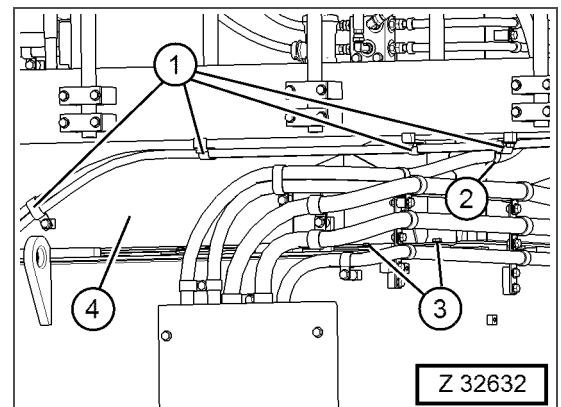

Fig. 3-462 View from below
8. Disassemble the clamps (Fig. 3-462, Pos. 1 & 2) along the fuel tank platform (rear) (Fig. 3-462, Pos. 4) and clear the refrigerant hoses from the fuel tank platform (rear).
9. Disassemble the mounting bolts (Fig. 3-462, Pos. 3).